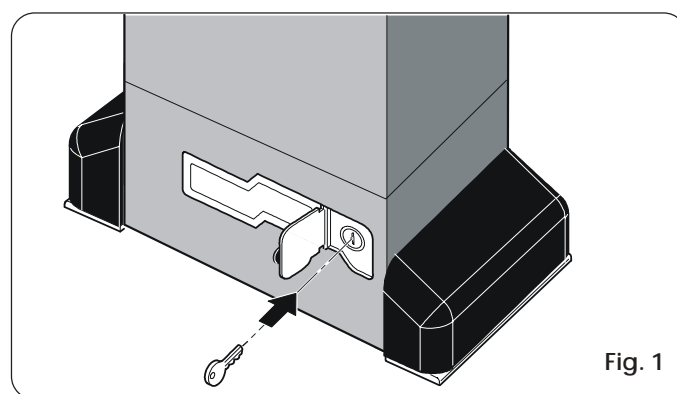

Fig. 1
- 1) Open the protective door and fit the supplied key in the lock (Fig. 1).